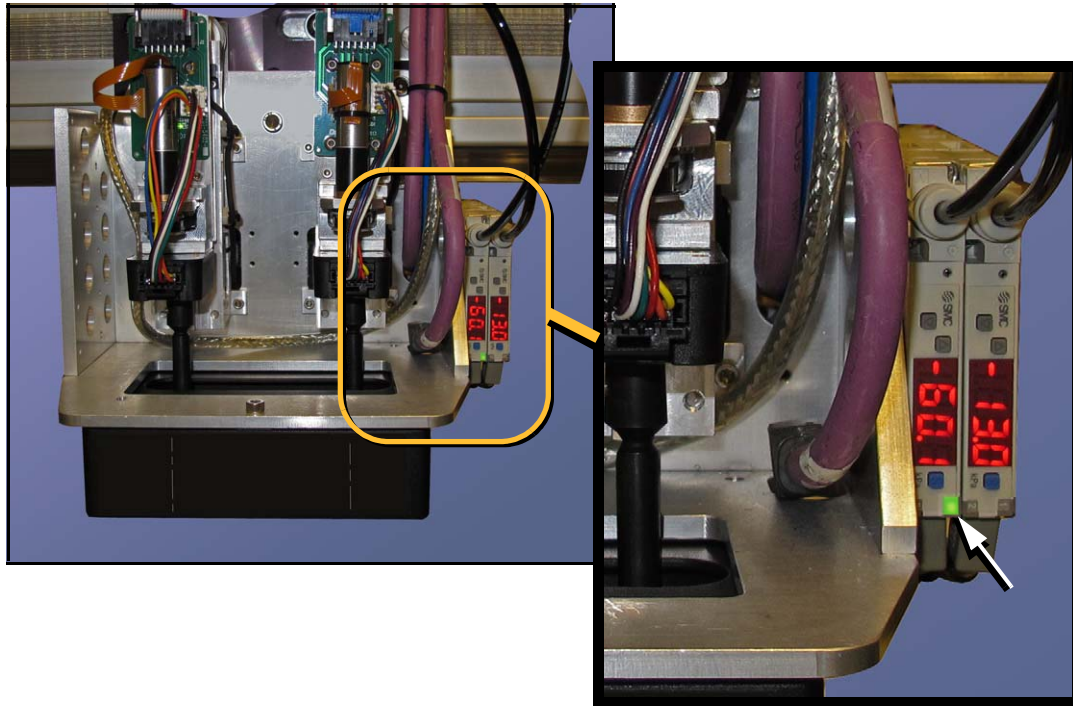

Figure 4-8: The PNP Probe vacuum generator adjustments. In this image, the green lamp for probe #2 is ON.
6. With a device or clean finger, plug probe tip 1 and ensure the green generator lamp comes on. See Figure 4-8.